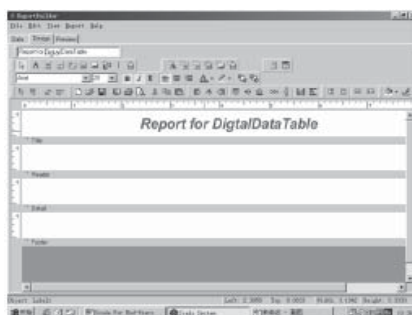

Fig. 8-13 Design the Title of the Report
3.1 Title: For example, as in Fig. 8-13, set the title of the report as **Report for DigitalData Table**.